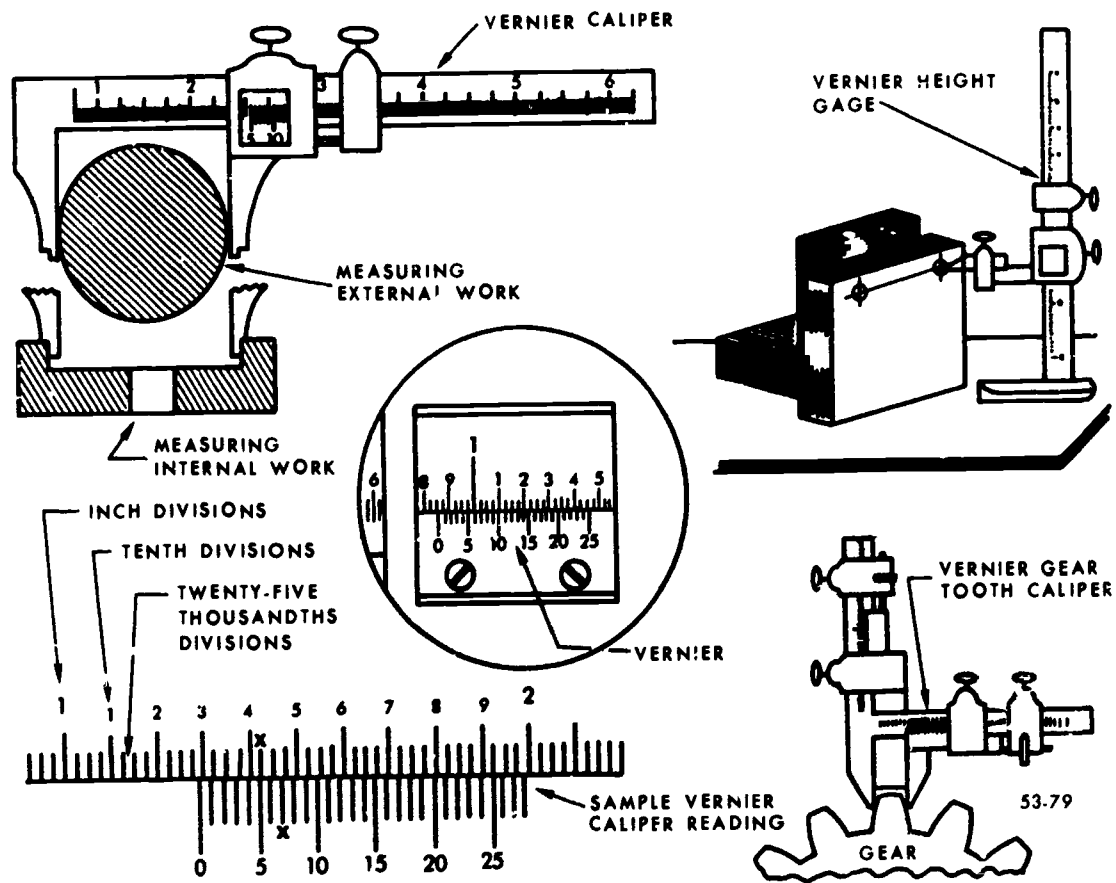

Figure 5-17. Vernier calipers and height gages.
**Vernier Caliper.** The vernier caliper, shown in figure 5-17, is quite similar to the caliper rule, except that it has a vernier scale. The vernier scale allows you to take measurements to within 0.001 inch. Vernier calipers have beams 6, 12, 24, 36, and 48 inches in length. Although slightly more bulky than the micrometer, one vernier can replace several sets of micrometers. For instance, a 12-inch vernier caliper has the same range of measurements as a set of 12 micrometers. Also, the vernier caliper is capable of making inside as well as outside measurements. The sliding jaw is thicker than the beam, allowing a vernier scale to be mounted on each side. One of the vernier scales is used for inside measurement, while the other is used for outside measurement. The vernier scale is a simple means of magnifying small differences in measurements so that they may be easily read on a linear scale. Although it would be possible to etch graduations of 0.001 inch on a steel scale, it would be almost impossible to read them. The addition of the vernier scale makes it a simple matter to read the 0.001-inch graduations. The main scale is divided into inches the same as a machinist's scale. The inch division is broken into 10 divisions of 0.100 inch. These divisions are further divided into four parts of 0.025 inch each. Thus, each graduation on the main scale equals 0.025 inch. The vernier scale (the lower sliding scale) divides the 0.025 inch main scale into 25 parts equal to 0.001 inch. When the index of the sliding scale (marked "0") is in alignment with a main scale graduation, you simply read the main scale graduations. When the index is not in alignment with a main scale graduation, you read the main scale division to the left of the index and add to that the number of marks to the right of the main scale division in alignment with the vernier scale.
divisions and a vernier scale that permits you to read the scales to within 0.001-inch accuracy. The vertical beam or main scale of the vernier height gage is graduated in relation to the bottom of the base. The scale then reads the actual height of the gaging surface. The gaging surface is the top surface of the sliding arm. You normally clamp the scriber point on the gaging surface of the height gage as shown in figure 5-17. The scale of the height gage permits you to make direct readings to the gaging surface of the scriber point. Essentially, this is a caliper-type reading when used for measuring work. The scribing tip of the scriber point is also at the height of the scale readings. You can scribe lines accurately at the indicated heights. The scriber point can be mounted to the bottom side of the sliding arm. Then the height gage can be used in the same manner as an inside caliper. When you are using the height gage in this way, you must subtract the thickness of the arm from the reading. The minimum height at which you can set the sliding arm gaging surface above the bottom of the base is usually 1 inch. When measuring heights less than 1 inch, use the
**Other Vernier Instruments.** Figure 5-17 also shows a vernier gear tooth caliper. It is used to measure various gear teeth dimensions such as the cordal thickness (the thickness of the tooth at the pitch circle). The scales are read in the same manner as the vernier caliper.
Not shown in figure 5-17 is the vernier bevel protractor. It is used to measure and check angles with greater accuracy than the protractor in the combination set. The vernier bevel protractor accurately divides each degree into twelve 5-minute segments with a vernier scale. Therefore angles can be measured to within 5 minutes of their true dimensions.